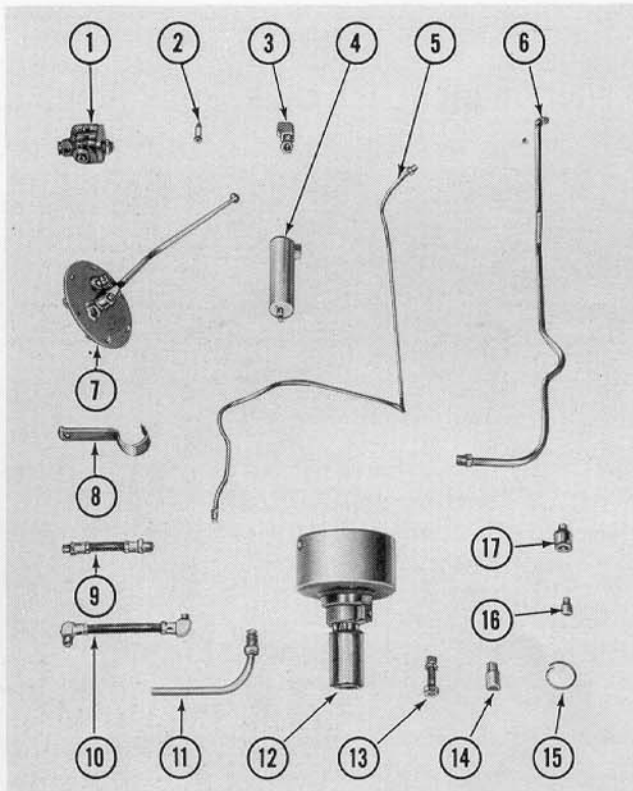

Figure 1
The Dearborn Live P.T.O. Attachment is shipped in a carton (D.M.C. Bundle No. 23-12) which contains the parts shown in Figure 1. Check the contents of the carton against the following list and Figure 1, to be sure that all parts are received.
1. Open the shipping carton and account for the parts shown in Figure 1, to facilitate assembly and installation.
8. Place the thrust spring (15), Figure 1, on the transmission main shaft and re-assemble the tractor. Do not install the tractor hydraulic oil lines at this time.